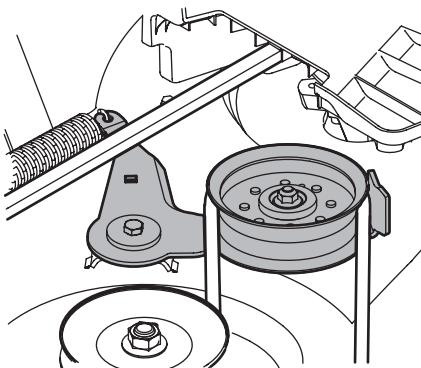

Figure 4-3
8. Working on the right side of the tractor, insert a $\frac{3}{8}$ " drive ratchet wrench, set to **tighten**, into square hole found on the idler bracket. See Figure 4-3.
9. Pivot the wrench forward to move the deck drive pulley forward. See Figure 4-3.